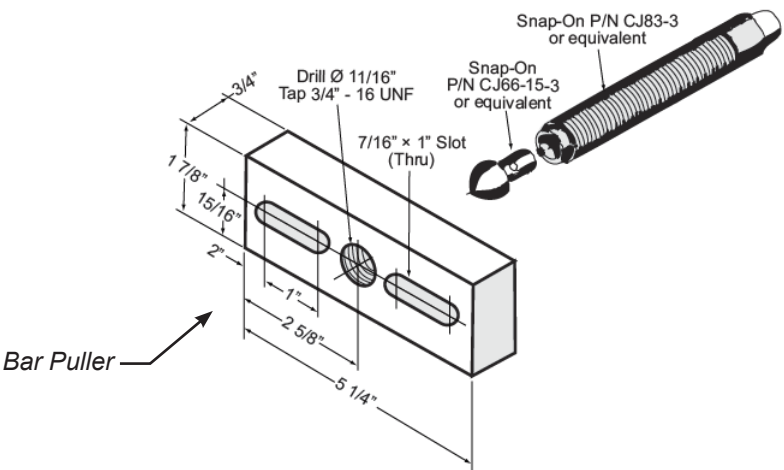

FIGURE 11
17. Use the bar pullers (see Figure 11) and attach to free end plate bores. Using the bar pullers, pull the free end plate from rotor shafts.